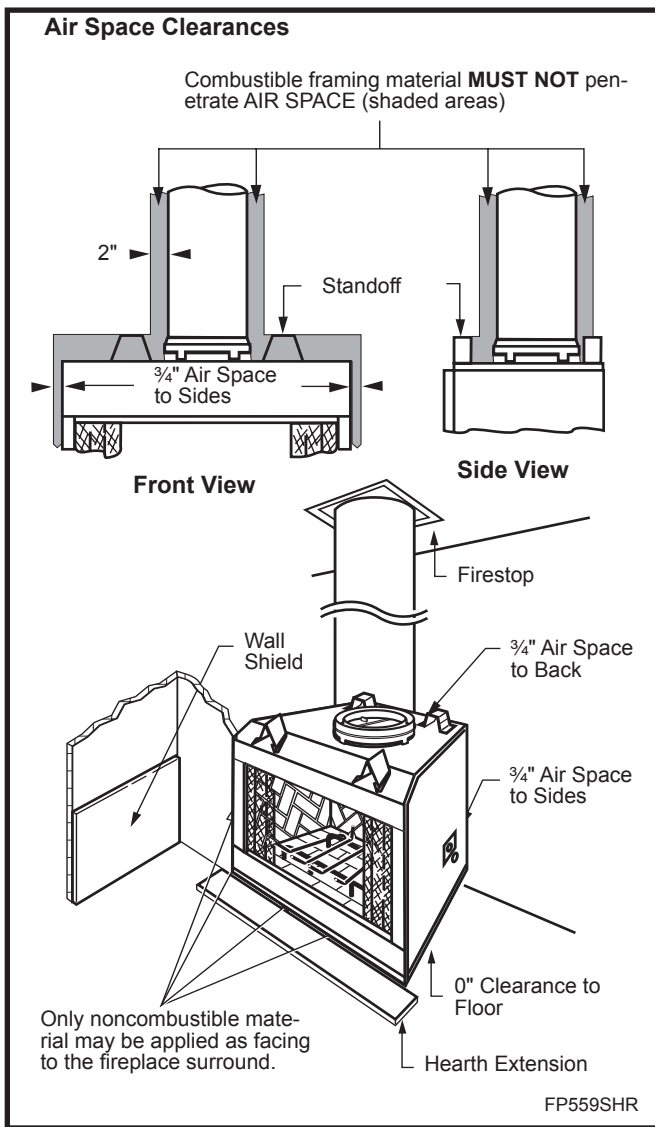

Fig. 20 Minimum clearances to combustibles.
**CAUTION:** All joints between the finished wall and the fireplace surround (top/sides) must be sealed with noncombustible material to prevent cold air leakage into the room. Only noncombustible material may be applied to the facing of the fireplace surround. (Fig. 20)